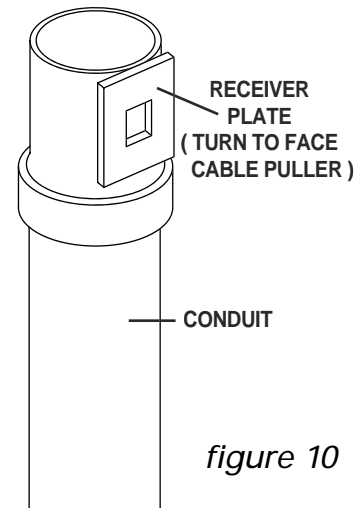

figure 10
2. Thread coupling onto the conduit until tight. Then, slightly back off coupling until the coupling receiver plate faces the direction where the puller will be positioned. See Figure 10.